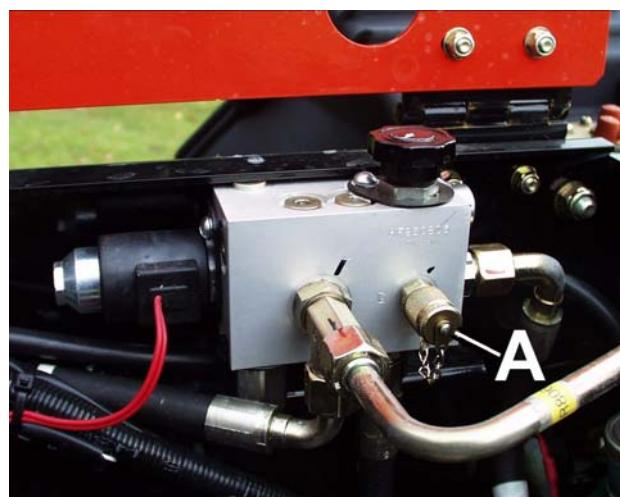

Fig.7
TEST PORTS (Fig.7,8,9):
1. Deck drive pressure: 207 bar (3000 psi). (A(Fig.7))